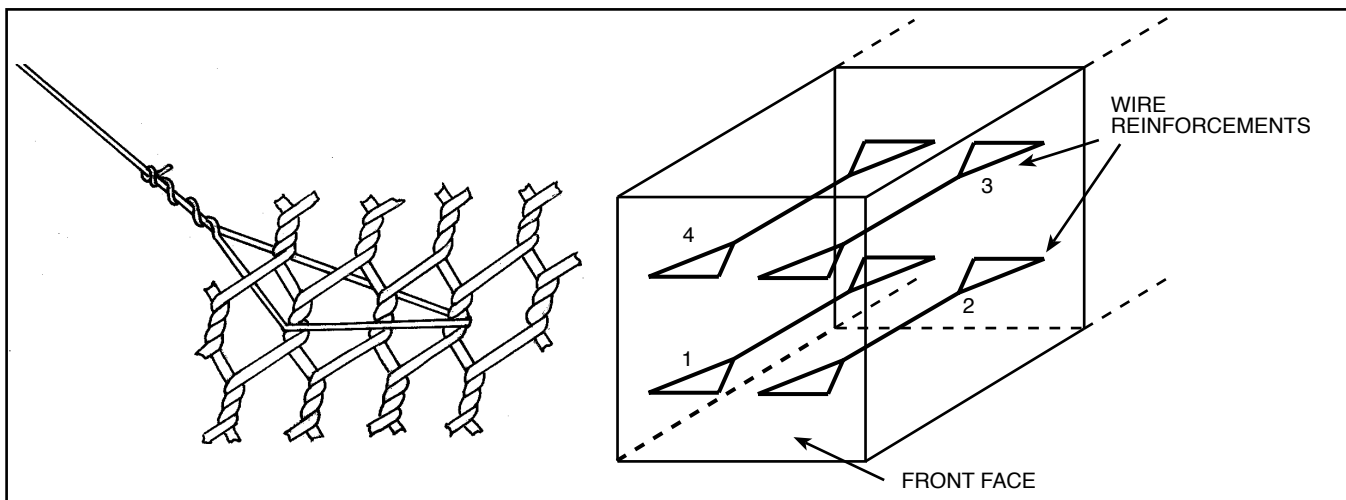

Figure 3. Use wire reinforcements to retain rectangular shape and increase stability
4. As the baskets are filled with stone, place wire reinforcements in each direction every twelve inches to retain the shape of the basket (see Figure 3).